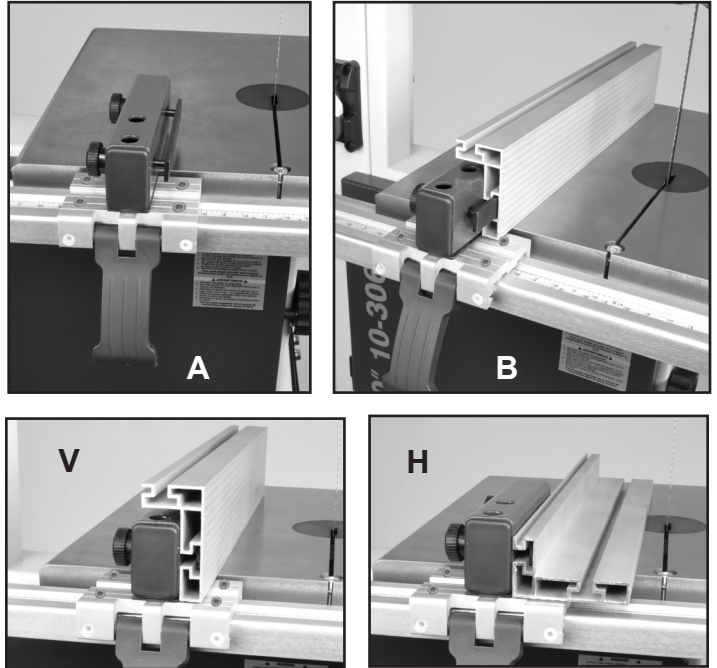

FIGURE 6
1. Install the Fence Carrier Assembly (#99-111) onto the fence's Guide Rail. The Carrier's front, Lever Handle (#101) should be lifted up, released, to allow the Carrier (#100) to fit onto the top of the guide rail. Once in place, move the carrier's front lever handle down to lock the carrier in position on the guide rail. FIG. 6 A.
2. The Fence (#106) attaches to the carrier by sliding it into the steel Locking Frame Bar (#105). FIG. 6 B. There are two 'T' slots in the fence that the bar will slide into. FIG. 6 V & H.